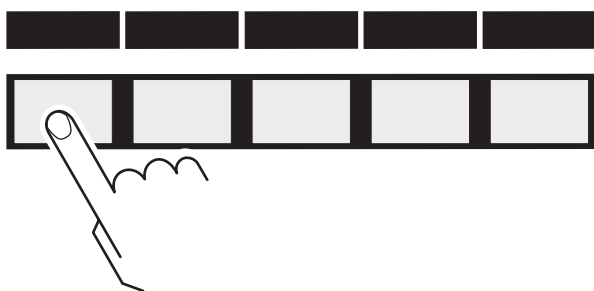

Fig. 7-4 Acknowledge the warning message
- 4 Confirm the warning message by pressing the leftmost button (Fig. 7-4, 59)